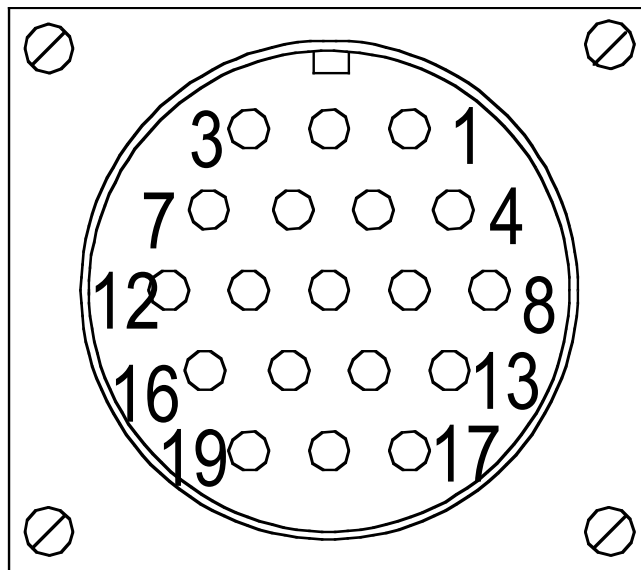

Figure 4 – Connection diagram
- cable _1 - for connecting of DL-20 to external power source 12 V and to the external control device (ECD) 3 of the User or to the personal computer. TRM has one socket for connection of a cable 1. Electric connection of a cable 1 to TRM is carried out as per the scheme of connections (figure 4) and table 3 taking into account requirements of item 2.2.2 "the Order of laser rangefinder module installation on object ". Laser rangefinder module control is carried out with ECD of the User or from a personal computer. Laser rangefinder module operation mode is set by control commands.
2.2.2.2 Plug in user's cable of necessary size to port X1 of the TRM body using socket 2_24__19_1_1 and assignment of contacts stated in table 2.1 and in Figure 4.